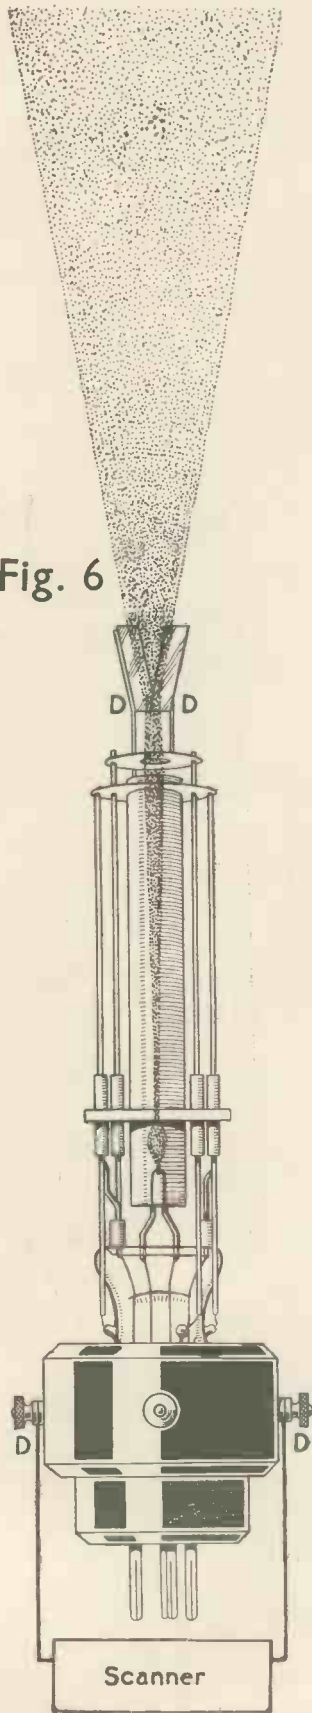

Fig. 6
FIG. 6.—A rapidly changing potential is applied to the deflector plates from the scanning circuit, and the beam is spread out as it passes through the plates DD. To produce a high-definition (240) line screen on the end of the tube the beam has to be moved across the screen in $1/6000$ of a second. The scanner is designed to produce this deflection regularly and uniformly in one direction, while a similar circuit moves the beam in a direction at right angles to this at a rate of 25 times per second (25 pictures per second).